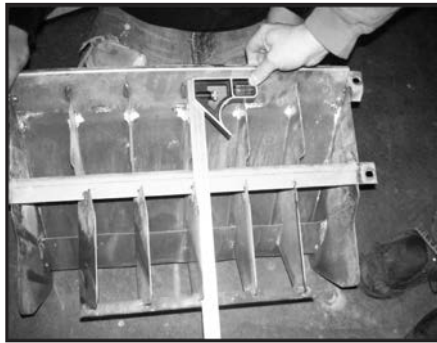

Figure 12
1. Figure 12 - Make sure center fin is square to rear panel.